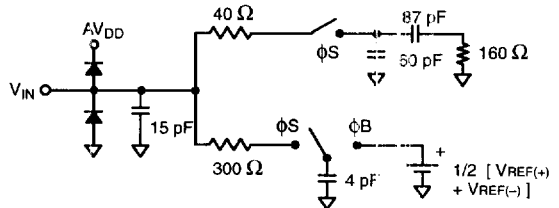

Figure 9. Analog Input Equivalent Circuit
- ³ See V_{IN} input equivalent circuit (see Figure 9.).
Good driving capabilities (low resistance, high current) of circuitry driving the flash analog input are guaranteed to optimize the MP8795 performance. Figure 9. shows the equivalent circuit for A_{IN} .